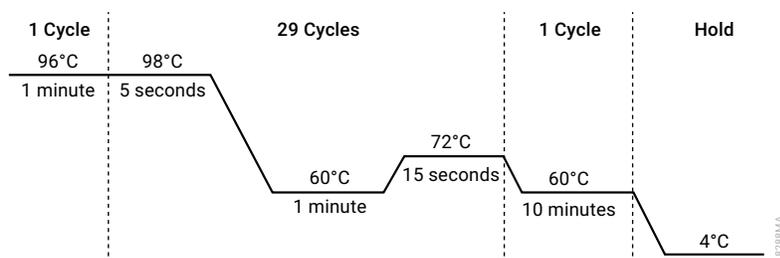

Figure 1. The thermal cycling protocol for the ProFlex® PCR System.
- Select and run the recommended protocol, which is provided below and in Figure 1. The total cycling time is approximately 1 hour and 5 minutes.